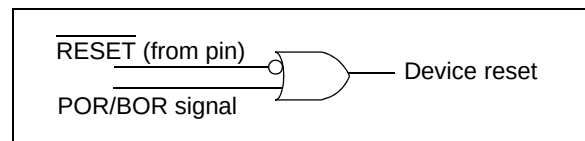

**FIGURE 4-1:** POR/BOR Signal and RESET Pin Interaction.
**Figure 4-1** shows how the  $\overline{\text{RESET}}$  pin signal and the POR/BOR signal interact to control the hardware reset state of the device.